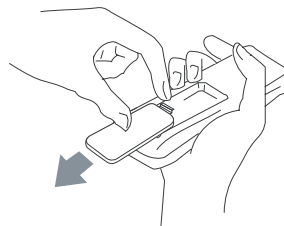

Fig. 13
- Slide and remove the protective cover (see Fig 13).